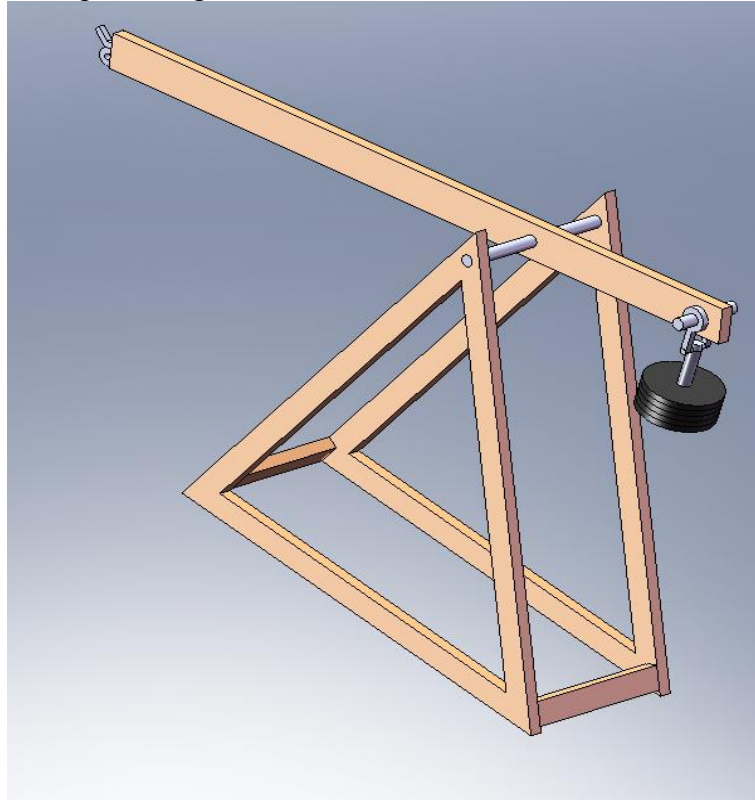

Figure 5. Trebuchet Design.
- Figure 5 shows a simplified figure of a trebuchet.